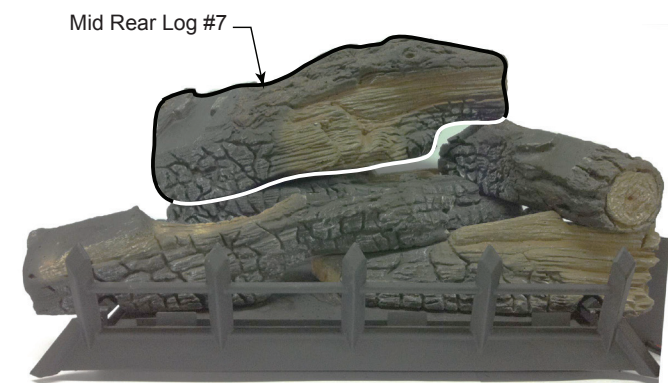

Figure 40
7. Place mid rear log (#7) on bottom rear log (#1) and mid right log (#6) by placing notch on bottom of log onto locating block on log #1. Right side of log will rest on log #6. *Figure 40*